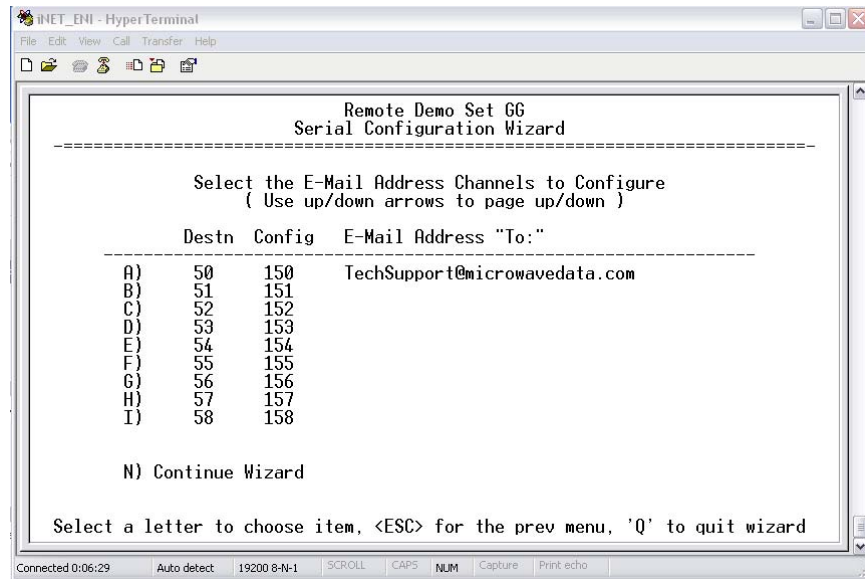

Figure A-6. Enter E-Mail Destination Addresses
5. Press **A** through **I** (and the **up/down arrow keys**, if necessary), then enter the desired E-Mail Destination address(es) to configure the E-Mail Message Routing table. See Figure A-6. When finished, press **N** to continue.
NOTE: The fields shown in Figure A-6 are equivalent to the *E-Mail Routing* table discussed in the *Allen-Bradley MicroLogix™ Ethernet Interface User Manual (1761-UM006C-EN-P)*. Refer to that manual for more information.